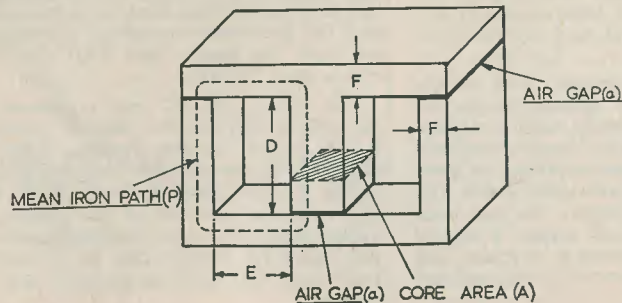

Fig. 1: Typical core for smoothing choke.
Reference to Fig. 1 will show that the total air-gap is the sum of the two gaps contained in the iron path (P), so that the actual width of the gap is half the total gap. To reduce the possibility of making errors by forgetting to divide the total gap by 2, the gap ratio figures in Table 1 have been adjusted to take this division into account, so that having worked out the value of (a) the actual gap is given. This figure is then the actual distance by which the T and U stampings are to be separated.